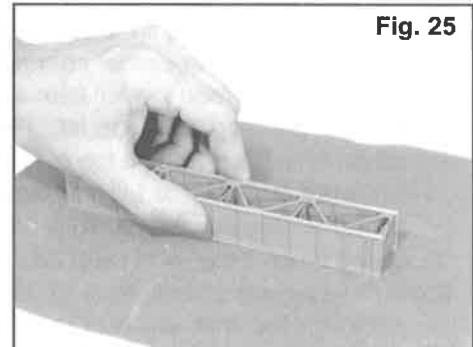

Fig. 25
**26. After the cement has dried sufficiently, place the span on a sanding block and sand off the draft angle and parting line from the edges of the top, bottom, and ends of the girders. See fig. 25.**